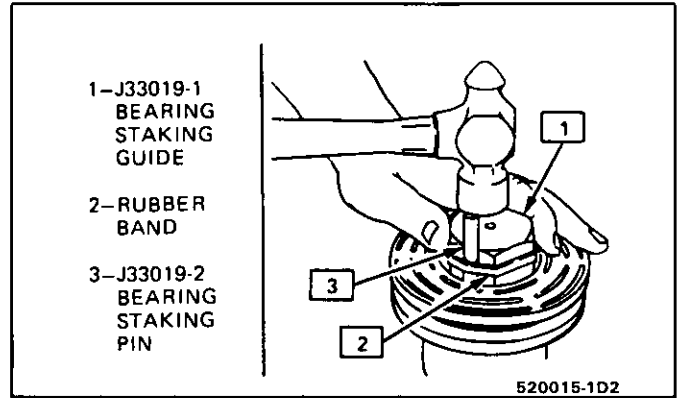

Fig. 15 Staking Bearing In Rotor Hub Bore
3. Place bearing staking guide J-33019-1 and bearing staking pin J-33019-2 in the hub bore as shown in Fig. 15. Shift the rotor and bearing
assembly on the J-35372 support block to give full support of the hub under the staking pin location. A heavy-duty rubber band may be used to hold the stake pin in the guide (Fig. 15), and the stake pin should be properly positioned in the guide after each impact on the pin.